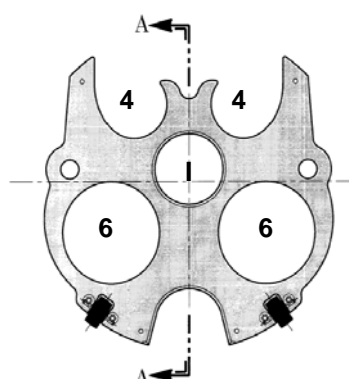

Figure 2. 2-6" & 2-4" Conduits
- B. Figure 2 Bore Spacer, **1.292"** maximum float.